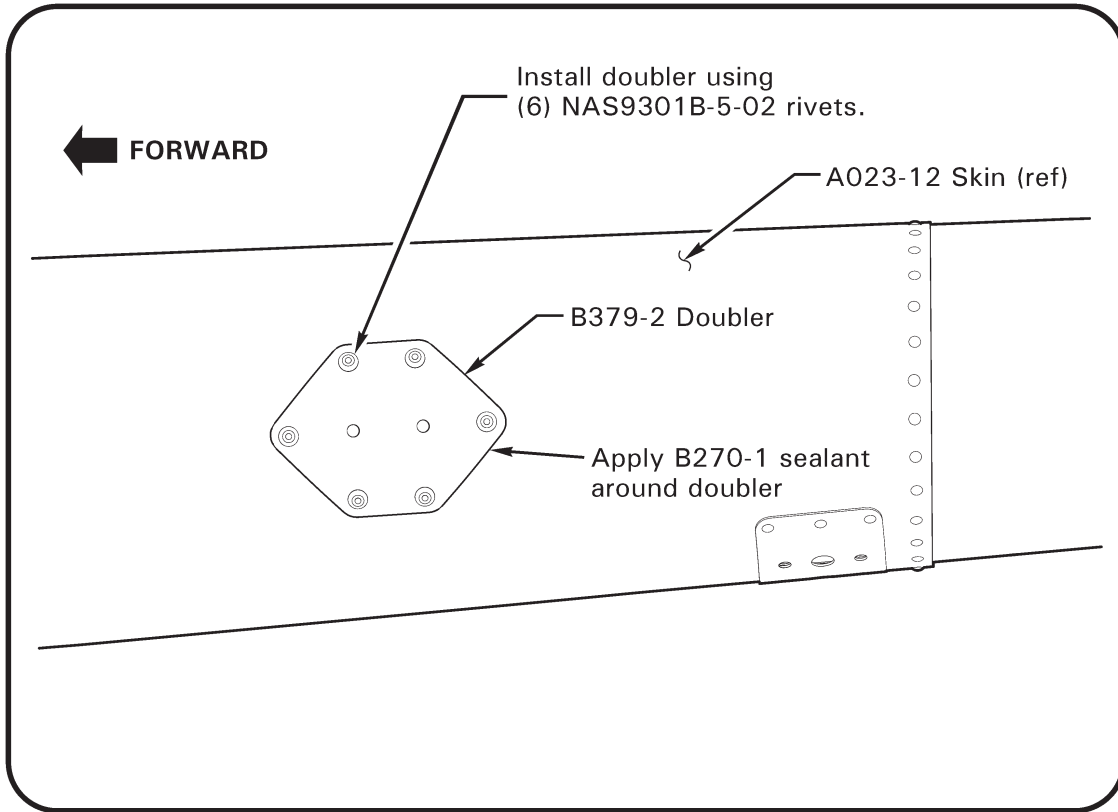
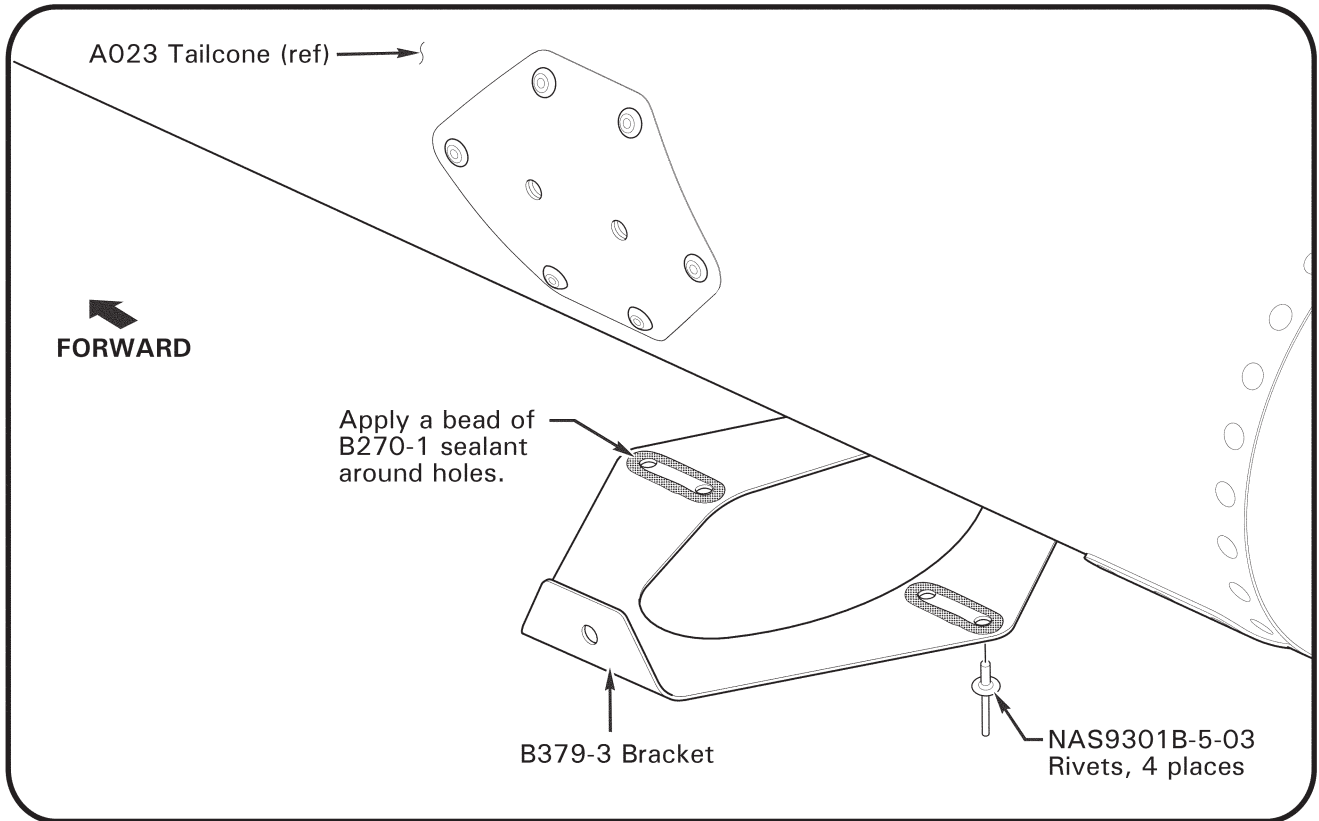

FIGURE 6 Doubler installation
FIGURE 9 B379-3 bracket installation
10. Refer to Figure 6. Install doublers to tailcone skin using (12) NAS9301B-5-02 rivets, removing clecos one at a time as required. Inspect installed rivets per manufacturers' specifications at: [CA-1015.pdf \(cherryaerospace.com\)](http://cherryaerospace.com).
12. Using hole finder and #30 drill fitted with drill stop, locate holes in tailcone and progressively match drill & cleco (2) holes thru B379-3 bracket. Enlarge holes in bracket & tailcone to 0.158-0.164 inch diameter using #21 drill fitted with drill stop. Temporarily attach MT858-4 template to bracket & tailcone using clecos. Drill (2) 0.158–0.164 inch diameter holes in tailcone skin thru template, bracket & tailcone. Remove template and B379-3 bracket. Deburr holes & clean up debris. At installer's discretion, chemically treat and/or prime/paint hole edges as described in NOTE in step 7.
13. Apply B270-1 sealant around B379-2 doubler as shown in Figure 6. Apply a small bead of B270-1 sealant around the two rivet holes in B379-3 bracket (two places), as shown in Figure 9.